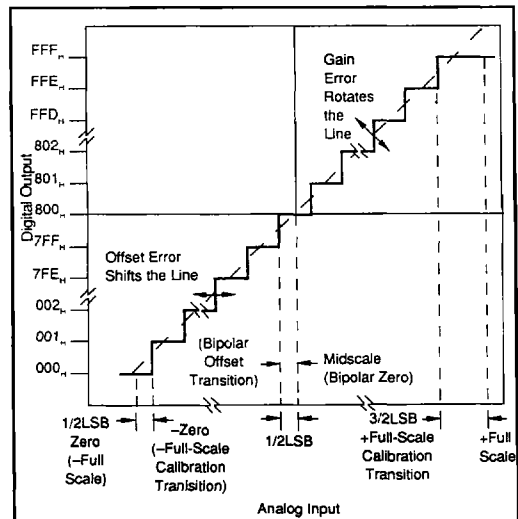

FIGURE 1. Transfer Characteristic Terminology.
Refer to Figure 1 for an illustration of A/D converter DC parameter terminology.
**Full Scale Error**—The deviation from the ideal value of the input at the last code midpoint ( $V_{FS} - 1\text{LSB}$ ). As with the linearity error measurements, code transition values are the locations actually measured for this spec. The ideal Full Scale transition value is  $\text{FSR} - 3/2\text{LSB}$  for unipolar input converters and  $\text{FSR}/2 - 3/2\text{LSB}$  for bipolar input A/D converters. Full Scale Error is expressed in % of FSR or in LSBs. Refer to Figure 1.
**Bipolar Zero Error** is defined as the deviation of the actual mid-scale-code midpoint value of the input from the ideal mid-scale value (i.e. at ZERO volts). The transition value actually measured is  $1/2\text{LSB}$  below zero input and has a value of  $\text{FSR}/2 - 1\text{LSB}$ . Refer to Figure 1. Bipolar Zero Error is the sum of the Bipolar Offset Error,  $1/2$  the Gain Error, and the Linearity Error. It is measured, rather than calculated to avoid tolerance buildup resulting from summing the tolerances of each spec.